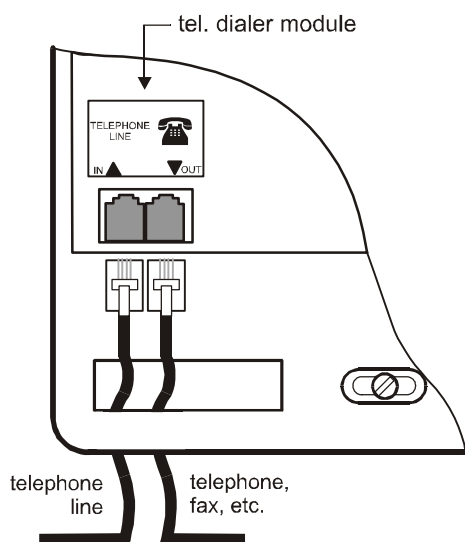

Fig.4 TNV-3 telephone line connection
- Use the provided telephone cable to connect the telephone line to the IN jack inside the control panel (see fig. 4),